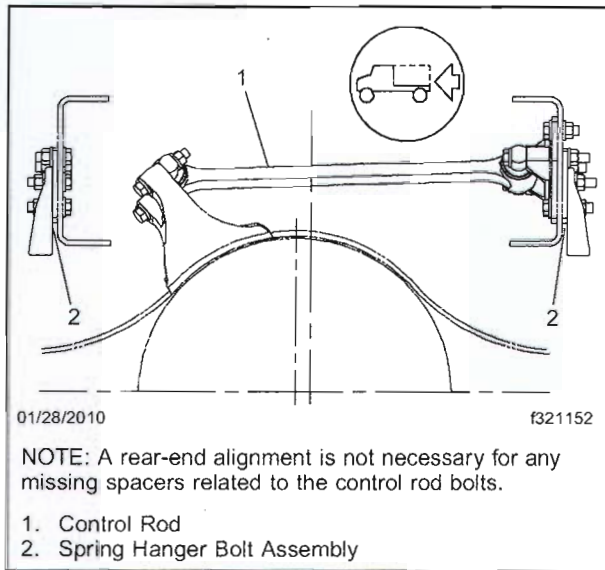

Fig. 1, Rear Axle
1. For vehicles in FL567A or FL567C with missing control rod bolts, replace the missing and/or damaged parts. See **Fig. 1**. Tighten the bolts 98 to 128 lbf-ft (133 to 169 N·m).